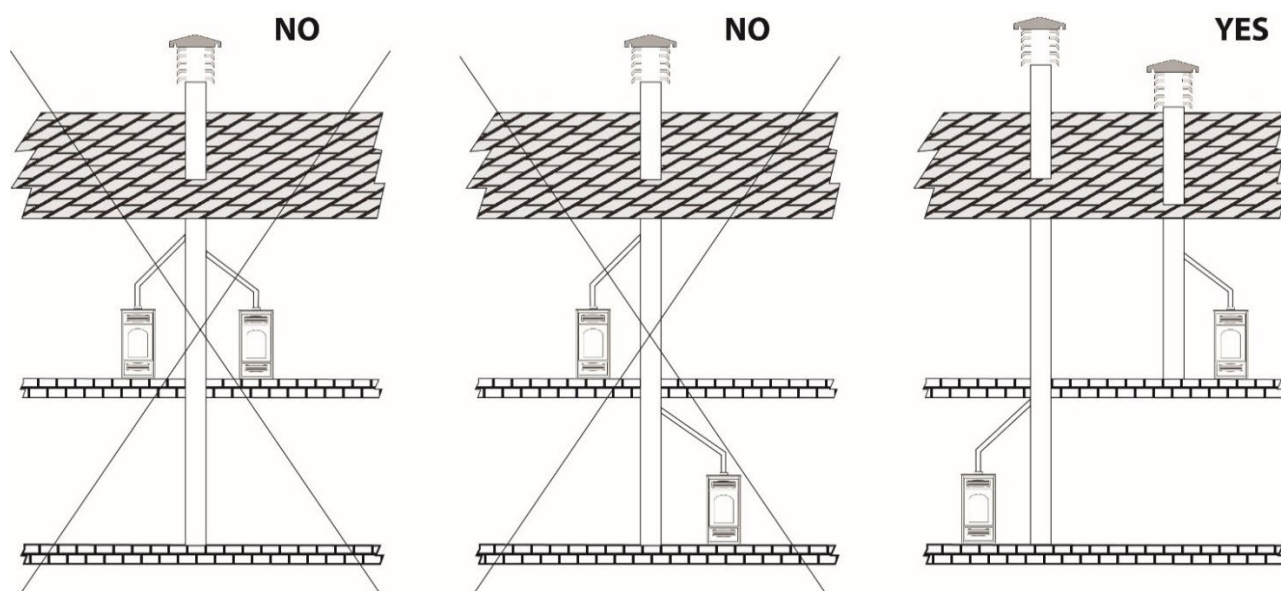

Fig.1
- It should not be connected to any other fireplace, boiler, boiler, or hood of any kind (*Fig. 1*).